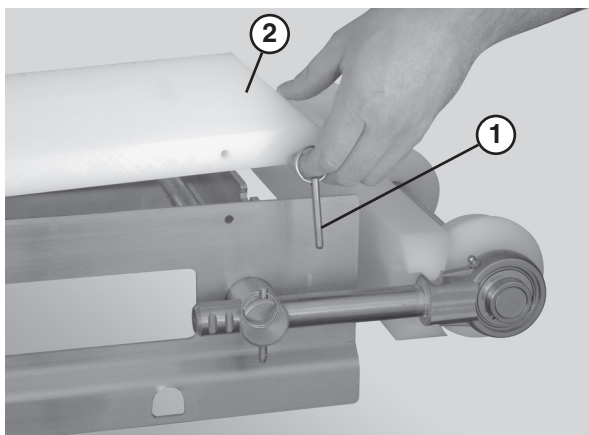

Figure 57
1. Remove the pull pins (**Figure 57, item 1**) that connect the guide (**Figure 57, item 2**) to the frame.